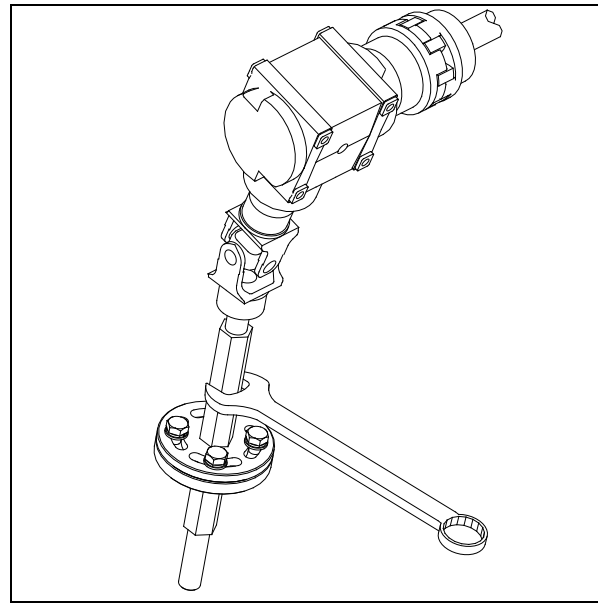

FIGURE 22 : SLIDE-OUT ADJUSTABLE SHAFT ASSEMBLY
2. Make sure the adjustable shaft assembly is tightened (refer to figure 22).
6. Operate the slide-out and check if the exterior panels of the slide-out are parallel with the vehicle panels. If not, rotate the upper part of the adjustable shaft assembly as required to obtain proper alignment (refer to figure 22).